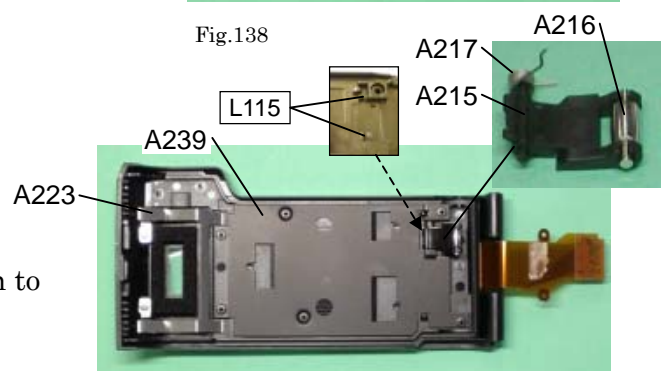

Fig.139
- 1) Apply L115 to the place indicated in Fig.139.